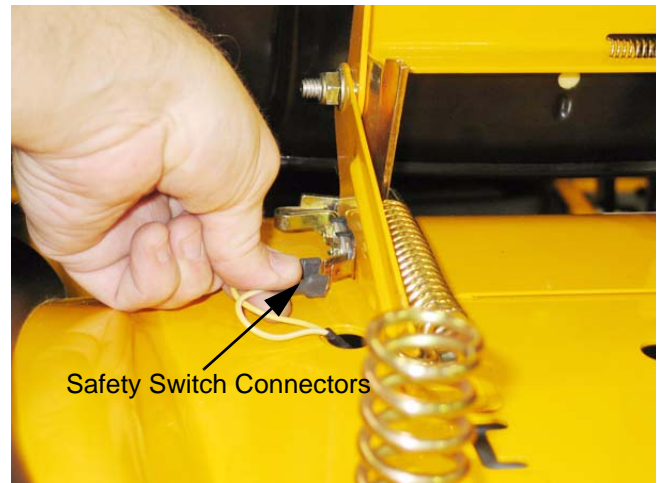

Figure 5.5
5.5. Disconnect the two yellow wires from the seat safety switch mounted to the left side seat bracket. See Figure 5.5.